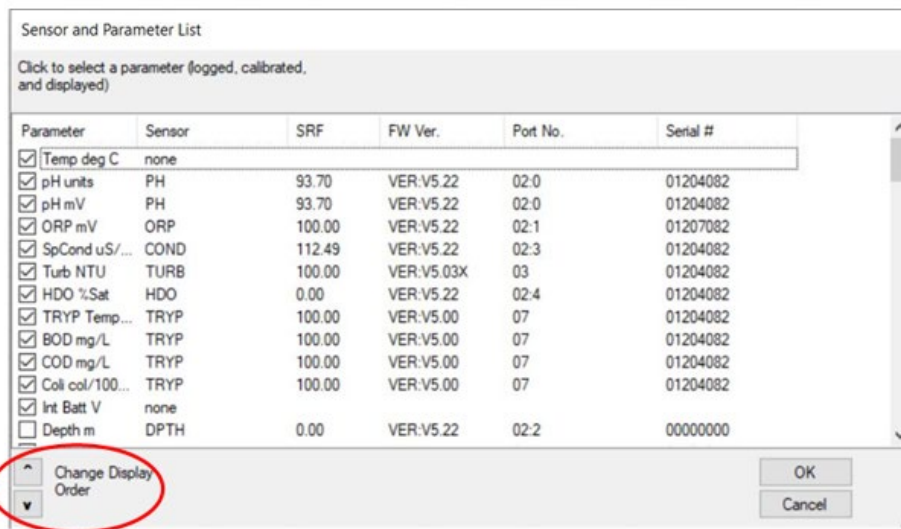

Figure 14: Sensor and Parameter list from Proteus Manager.
17. Displays the sensor and parameter list (Figure 14). Parameters with a tick next to them are displayed on the main interface in the order shown on the list.